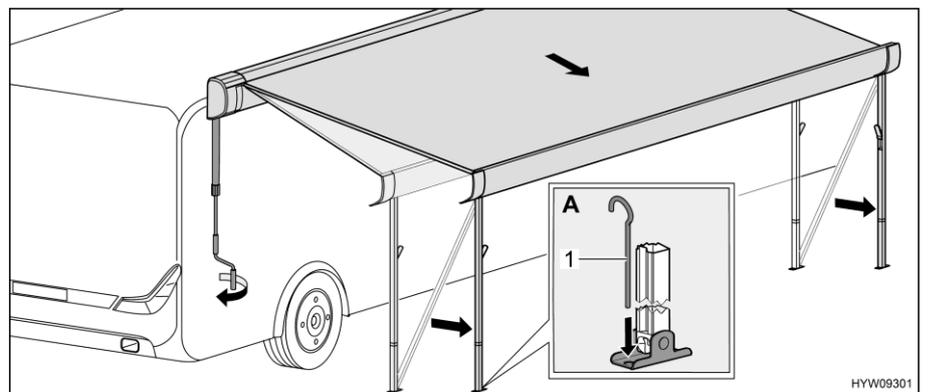

Fig. 27 Bringing awning into end position
- Fix the support legs to the floor with tent pegs (Fig. 27,1) (Fig. 27,A).